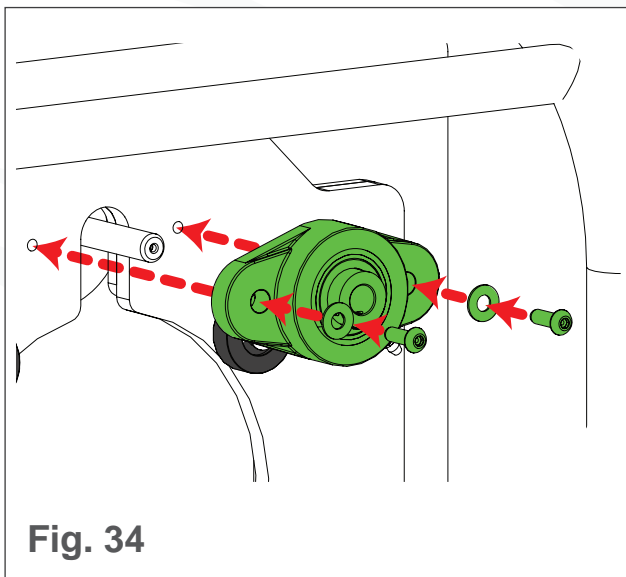

Fig. 34
2. Place the brush bearing flange on the end of the brush (see Fig. 34).
3. Secure the brush bearing flange by inserting the bolts and washers (see Fig. 34).